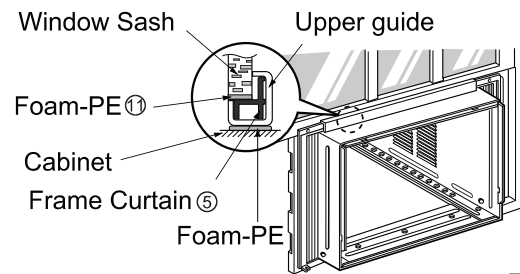

Fig. 2
2. Pull the bottom window sash down behind the Upper Guide until they meet. (Fig. 2)
**NOTE:** Do not pull the window sash down so tightly that the movement of Frame Curtain ⑤ is restricted.